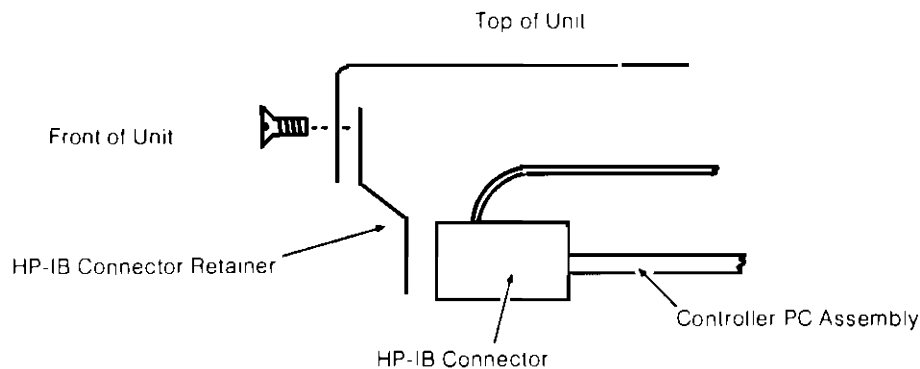

Figure C-3. HP-IB Retainer
3. Remove the screw securing the HP-IB connector retainer hanging below the right drive (see Figure C-3).
8. Install the retainer for the HP-IB connector just attached, as shown below in Figure C-3.